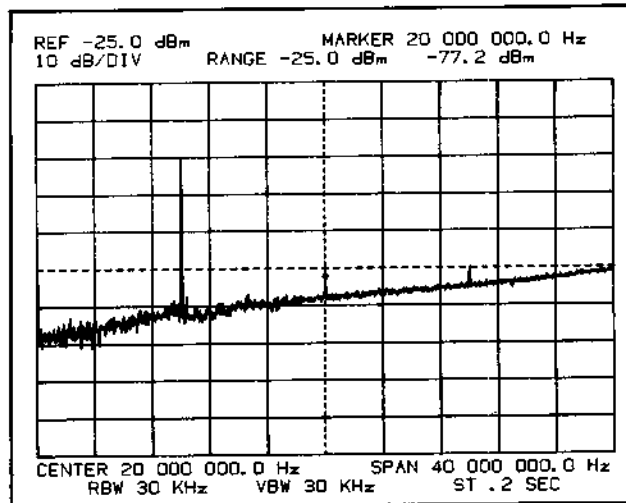

Figure 5-37. Calibrator Symmetry Adjustment (A1R52)
c. Slowly replace the cable until a display similar to figure 5-37 is obtained. When this display is obtained, do not push the cable in any further.